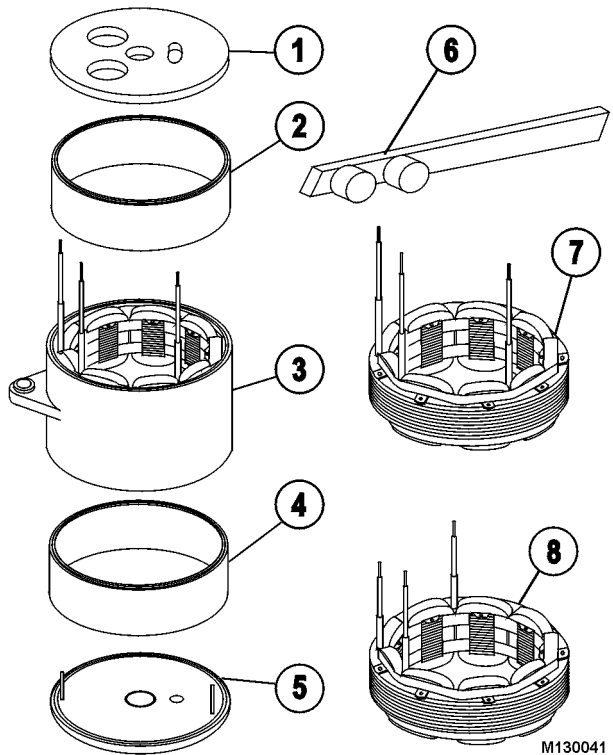

FIGURE 13-42.
**PRESSURE PLATE SET UP (Refer to Figure 13-42)**